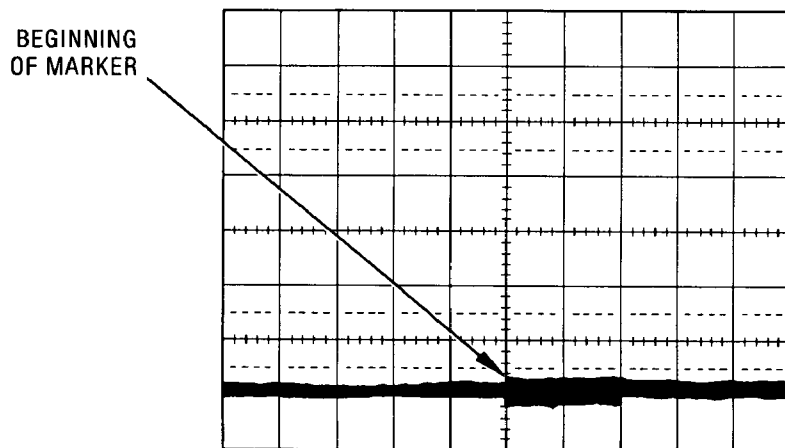

Figure 5-26. Z-Axis Marker Waveform
9. On oscilloscope, position marker to center screen with horizontal position control. Press oscilloscope **MAG X 10**. Reposition the beginning of the marker at center line of screen with horizontal position control. (See Figure 5-26.)